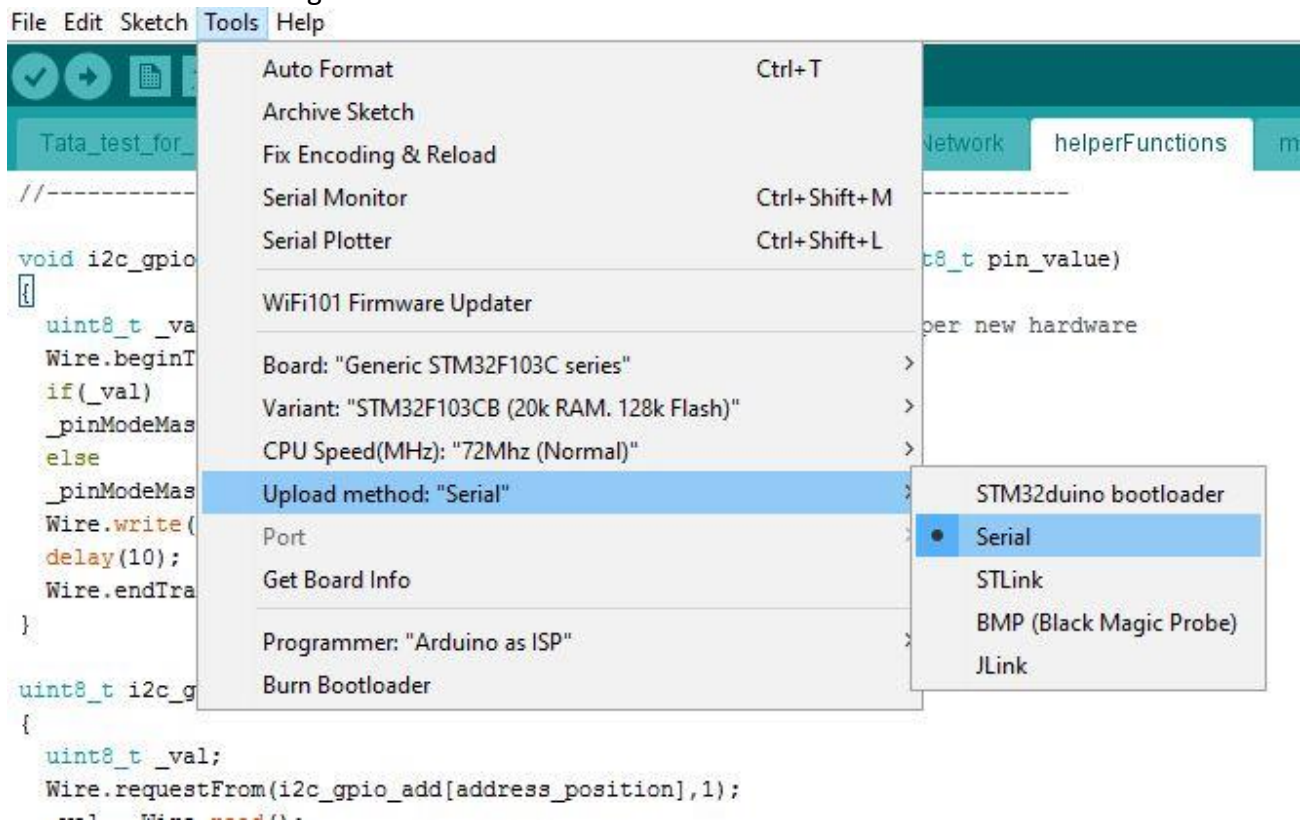

Figure 8: Upload method selection
7. Click on tools tab, move mouse pointer to "Upload Method: "xxxxx", under this click on "Serial" to select. Refer to figure 8.